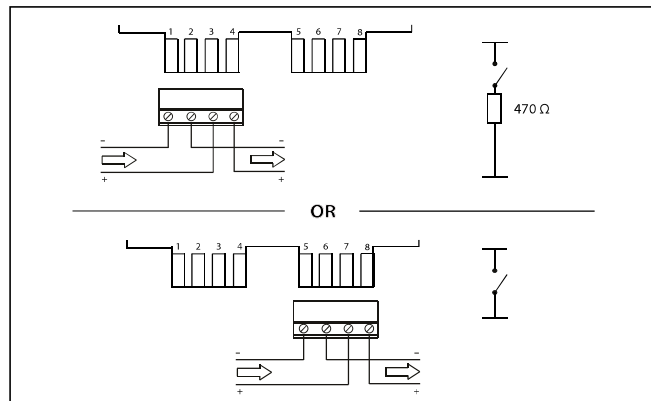

Fig. 2 Terminal block connections
- Remove terminal block from the PCB. Run the cables into the backbox and connect them to the terminal block as shown in Fig. 2. Ensure that functional earth/screen continuity is maintained. Screens should be connected to the terminal in the backbox.